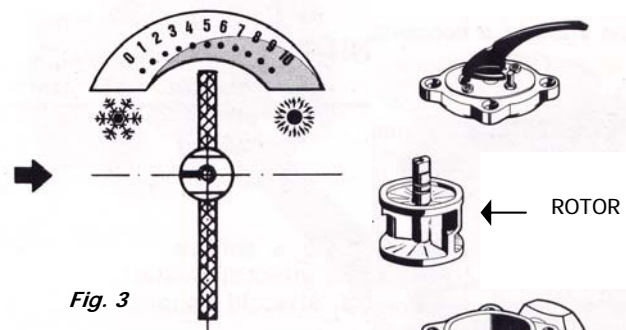

Fig. 3
- the **reference mark** pointing towards the water coming from boiler means "valve at half travel" (**fig. 3**)